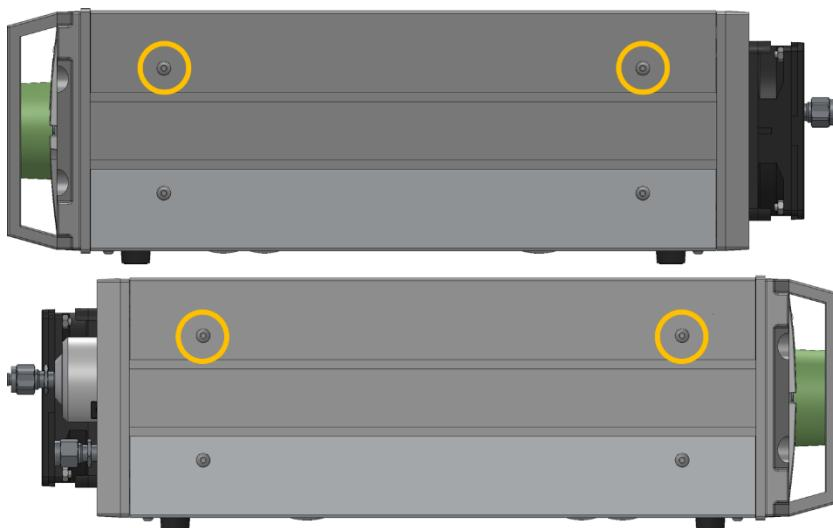

Figure 27. Location of top cover screws.
- Unscrew the 4 pcs of M4x6 mm screws on the instrument sides and lift the cover up. See Figure 27 for locating screws.